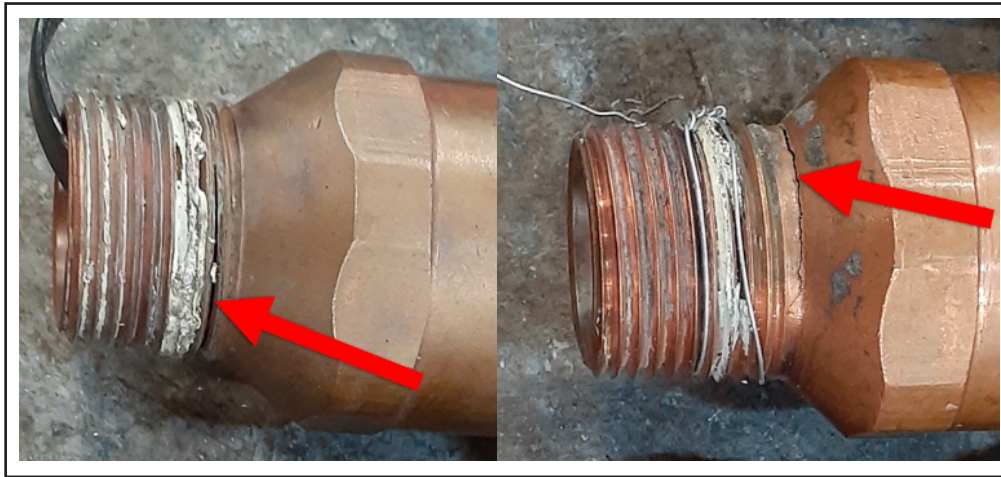

Figure 3 - View of Cracked Adaptor
- 1.6. Check for any sign of crack initiation, leakage at the bottom of the threads or at the geometry change of the adaptor and replace if found (see figure 3).